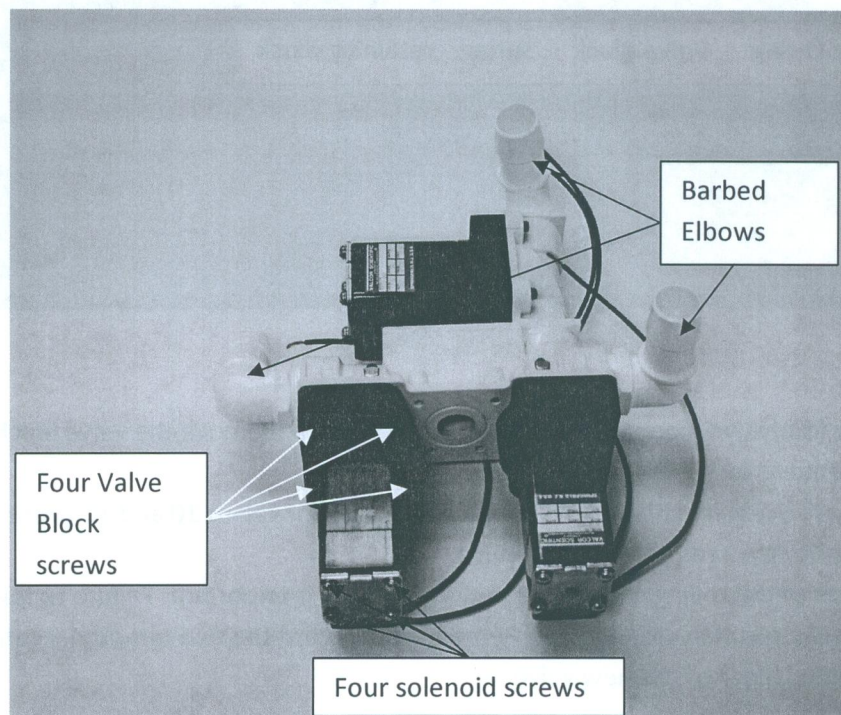

Fig 6 Current DSD-201 valve configuration
- Disconnect the water inlet hose from the bottom of the water filter. Refer to figure 6